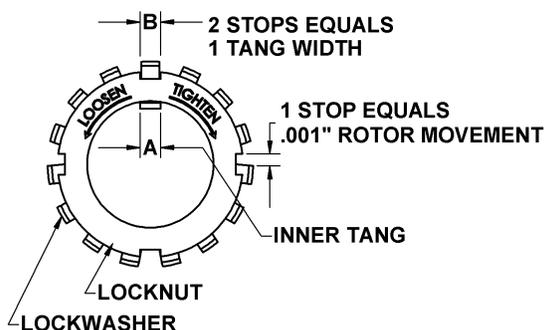

Figure 7 - Locknut Adjustment
13. Install the outboard head (20), mechanical seal (153) and bearing (24) as instructed in steps 6 through 11.
14. Rotate the shaft by hand to engage the mechanical seal drive tangs, and to test for binding or tight spots. If the rotor does not turn freely, lightly tap the rims of the heads with a soft faced mallet until the correct position is found. Install all of the remaining head capscrews (21) for each head (20) and uniformly torque to 30 lbs ft (40.7 Nm).
It is important that the bearing locknuts (24A) and lockwashers (24B) be installed and adjusted properly. Overtightening locknuts can cause bearing failure or a broken lockwasher tang. Loose locknuts will allow the rotor to shift against the discs (71), causing wear. See Figure 7.